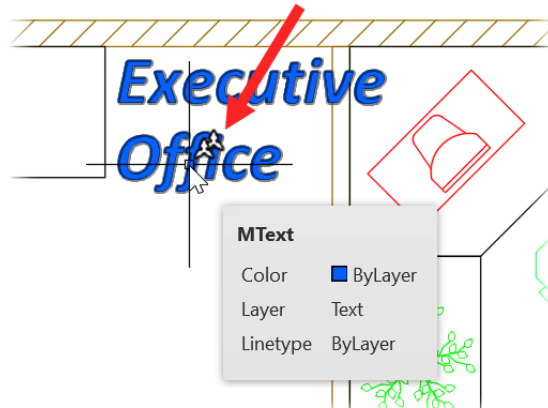

Figure 8.33: The annotative text object with two annotative symbols displayed
8. Click on **OK** to close the dialog box. You will notice that the annotative text is now larger in the **Model** tab, as shown in *Figure 8.33*. This is because you now have two annotation scales applied, and the current annotation scale is **1:50**, which defines its size in the drawing. Also note that when hovering over the annotative text object, *two* annotative symbols are displayed, indicating more than one annotation scale has been applied.